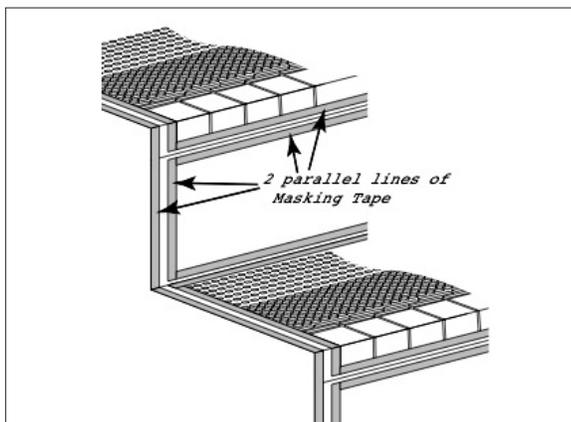

Fig 14
- ◆ The 3mm wide flat area in the embossing may also be sealed using MS 939 Edge Sealer. Place two parallel lines of masking tape on each side of seam area. Smooth the MS 939 Edge Sealer with a spatula or similar tool. See Fig 14, 15 & 16.
- ◆ **Place two parallel lines of masking tape around the entire edge of the Takiron Stair Treads, Riser and Landing Sheet. The inside tape line should be on the tread paralleling the tread edge. The second tape line should be on the substrate paralleling the tread edge. The gap between the two masking tape lines should be 5mm wide (approximately 3/16 inch). Apply a bead of MS 939 Edge Sealer and smooth with a spatula or similar tool so that MS 939 Edge Sealer is 5mm wide (approximately 3/16 inch). See Fig 14, 15 & 16 on page 6.**